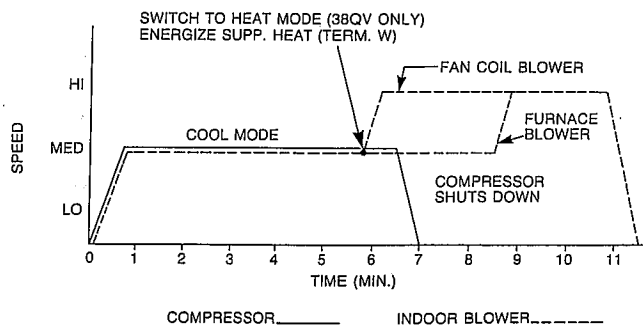

Fig. 18—Run Test Sequence
In the absence of any diagnosed problems, the system will operate in the Cool Mode for 7 minutes. It will then switch to Heat with auxiliary heat on (gas or electric) and immediately ramp the compressor down and off. Auxiliary heat remains energized for about 3 minutes. See Fig. 18 for a pictorial of Run Test sequence.
A check list of system operational functions is included below. Refer to Fig. 18 for the sequence of these functions and check each item. To complete the list, the Run Test can be initiated more than once.
- Verify that indoor blower speed override for gas or electric heat operates properly (blower jumps from medium to high speed). This function is necessary to guarantee full blower speed operation when electric heat or furnace is on. (Blower control is different for gas vs. electric heat as shown in Fig. 18).